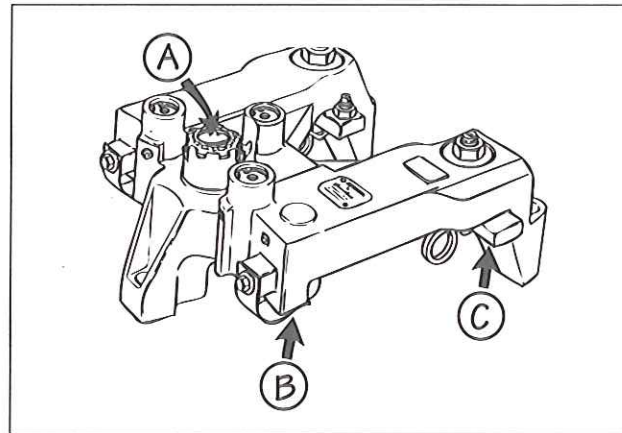

FIG. 30
2. Depress and release the engine brake solenoid armature (A, Fig. 30) several times to allow the housing to be filled with oil.
3. Watch the master piston (B) to be sure it is moving down onto the roller in the injector rocker arm.
4. Watch the slave piston assembly (C). It should move down to contact the exhaust valve rocker arm adjusting screws.